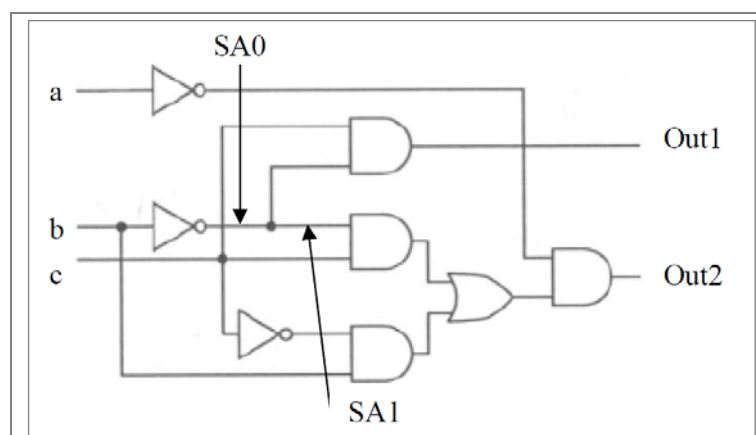

Figure 3: Combinational circuit
Given the circuit of Figure 3; it is a combinational circuit consisting of eight logic gates. Answer the following questions.
This assignment will introduce you to the Cadence simulation environment and the main tools that will be used for the lab. In addition, the tools will be used to practice ATPG for the circuit of Figure 3. Before describing the lab assignment, the required knowledge and the learning goals will be listed.
Inspect this Verilog *netlist* file and verify that it indeed describes the circuit as given in Figure 3.
Assume that we have a vhdl description of the circuit of Figure 3 and we want to generate its netlist using RC. Is RC going to produce the same netlist as that in the file *assignment1.v*? Why?
4. Use the appropriate command as found in task 3 and execute it. After the execution, the circuit should appear in the GUI. Verify again that this circuit indeed is the same as that of Figure 3.